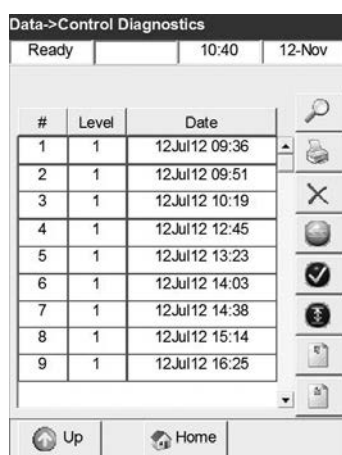
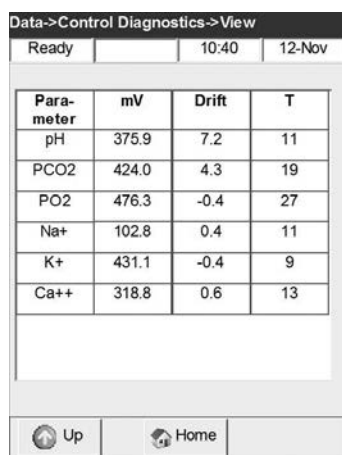

Fig. 7-45 Select Measurement
Fig. 7-46 Control Diagnostics
- In the **<Data - Control Diagnostics>** screen (Fig. 7-45), select the desired measurement and press the **View** button to display the control results (Fig. 7-46). Use the **Up** and **Down** buttons to display the previous or next page of results.
- To print individual results, highlight the desired measurement (Fig. 7-45). To print groups of results, highlight the first measurement to be printed, press **Mark**, then select the last measurement to be printed. All the measurements in between will be selected. Press **All** to select all results.